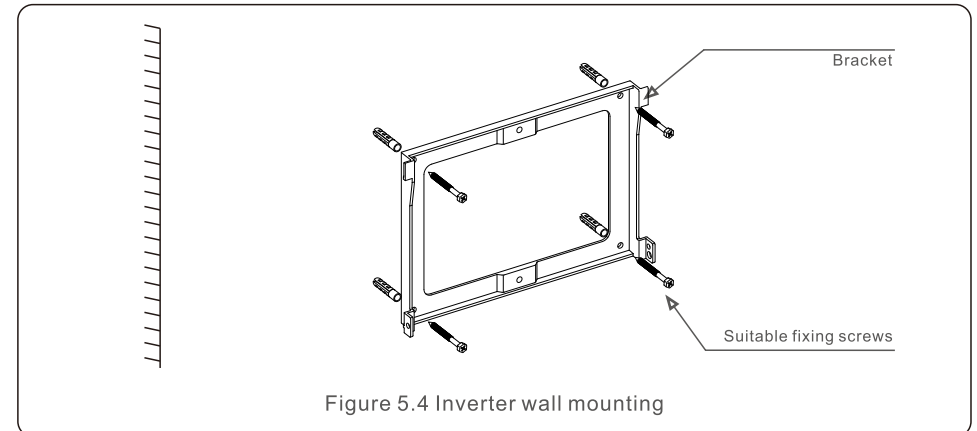
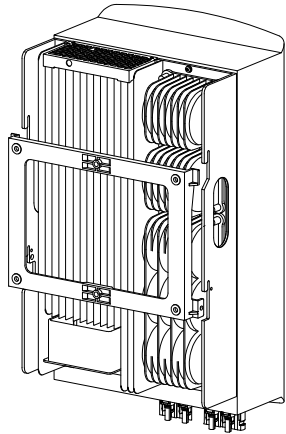

Figure 5.4 Inverter wall mounting
Figure 5.5 Install the inverter
Refer to figure 5.4 and figure 5.5. Inverter shall be mounted vertically. The steps to mount the inverter are listed below.
1. Refer to Figure 5.4, the holes for expansion bolt based on the hole diameter of bracket (ST6.3\*60 cross recessed hexagon head tapping screws, HJ0108 10\*50mm fished expandable tubular), using the percussion drilling with the 10mm drill need to stay vertically on the wall. And the drill hole must be vertically on the wall. And all drill holes' depth is 60mm.
2. Make sure the bracket is horizontal. And the mounting holes (in Figure 5.4) are marked correctly. Drill the holes into wall at your marks.